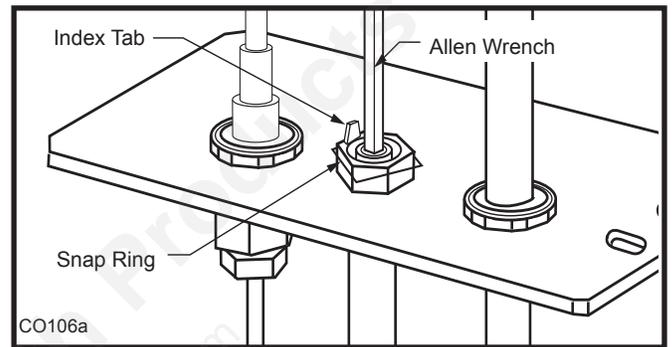

Fig. 33 Remove pilot orifice.
- Remove pilot orifice with allen wrench. (Fig. 33)